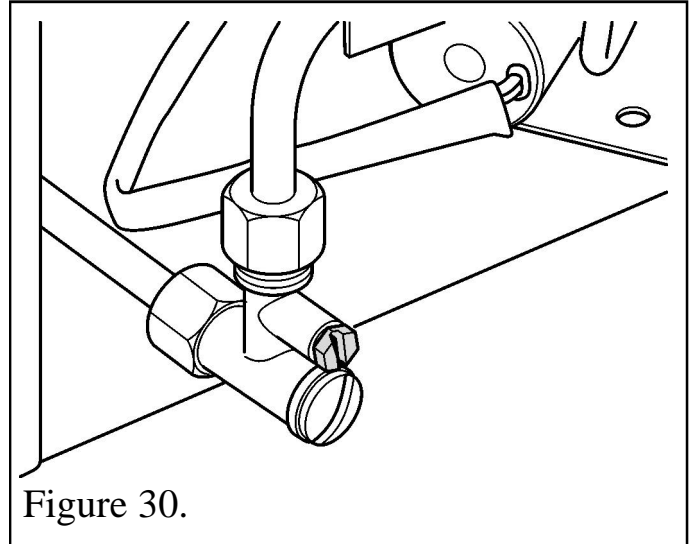

Figure 30.
1. Check the burner pressure by fitting a pressure gauge at the test point. The test point is on the inlet 'T' connector (See figure 30).